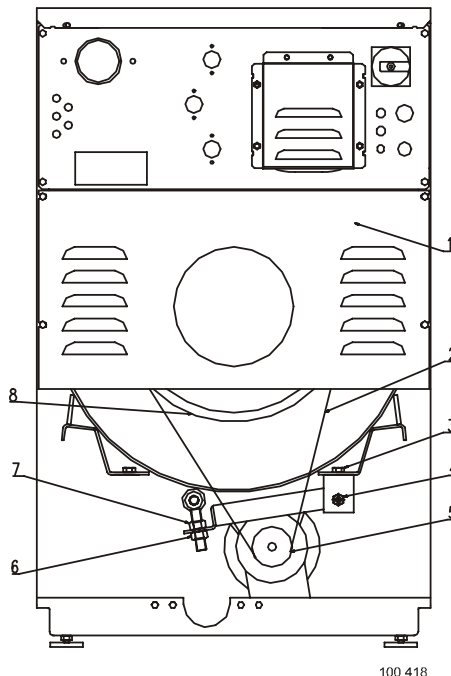

Fig.5.2.4. Regulation of belt
1. Dismantle the rear panel, fig.5.2.4., pos.1.
2. Remove the belts, item 2, from the pulley's, by releasing the securing nuts, item 6-7 and item 4.
3. Put a new identical type belts on pulleys item 5 - 8.
4. The belts must be in line on the two pulley's item 5 - 8. If necessary move the motor, forwards, backwards, so that the belts gets aligned.
5. Turn on the bolt, item 7 down for applying tension to the belts, taking care that the nut item 6 give enough freedom.
7. If the belt tension is within the limits, screw the lower nut, item 6 against the motor plate as counter nut. Tighten strongly to secure the whole setup.